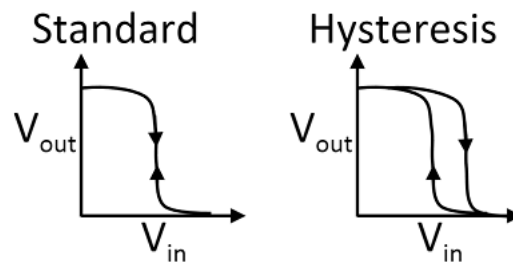
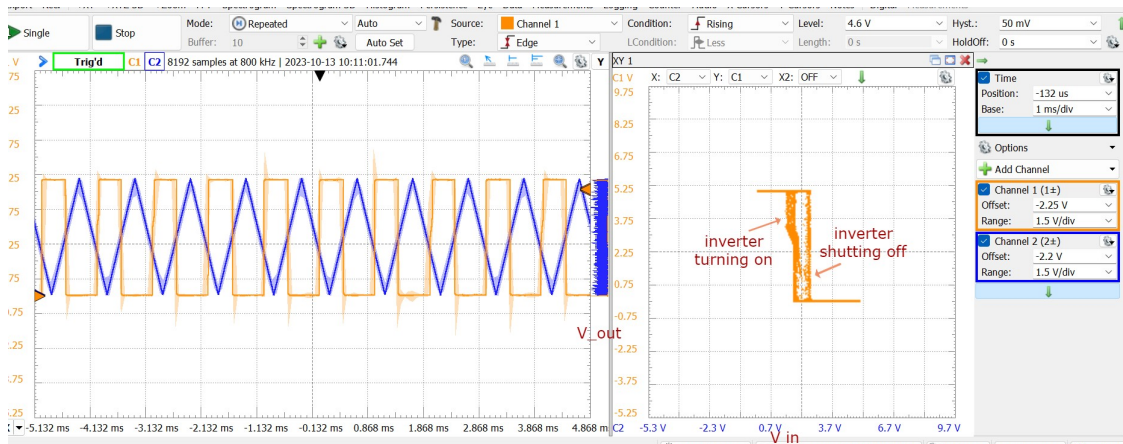

Figure 3: The input vs. output voltage of an inverter without and with hysteresis.
Figure 7: Input (x-axis) vs. output (y-axis) voltage of inverter plotted against each other
- I used WaveForms XY function to plot the input against output voltage, seen in Figure 7
When I set up the X-Y graph (visible in Figure 7) while the input signal was operating at 10 kHz, the rising and falling edge of the
This occurs because the Schmitt-Trigger inverter we are using uses hysteresis to mitigate the noise from the input voltage. Figure 3 explains what we see in the XY graph in Figure 7 better, showing the behaviour of the inverter as the input voltage changes, with and without hysteresis. What we see in Figure 7 in the graph on the right, with the inverter taking separate 'paths' inverting 'on' (above ~1.8 V) voltages to off and inverting 'off' (below 1.1 V) voltages to the on state, as, well, 1.8 V and 1.1 V are not equal. The hysteresis sets a threshold the input voltage must meet/ be in-between to flip. This way any input voltage, which consists of a range of values, that meet these requirements will flip the inverter, improving its accuracy, much like how digital signals work. The inverter doesn't rely on an exact input voltage to operate, and the different on- and off-voltages the inverter requires to flip from HI to LO or vice versa also prevents it from being confused, kind of like a debounced pushbutton.